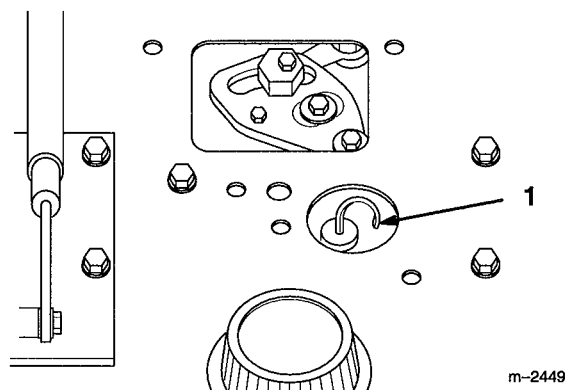

Figure 31
3. Clean around the transmission dipstick (Fig. 31) so dirt cannot fall into the filler hole and damage the transaxle.
4. Pull out the dipstick and wipe the metal end clean (Fig. 31).
5. Slide the dipstick fully into the filler tube (Fig. 18). Pull the dipstick out and look at the metal end. When transaxle is cold oil should be at the "Full" line on the dipstick (Fig. 31).
4. Slowly pour approximately 80% of the specified amount of oil into the filler tube (Fig. 31). Now check the fluid level; refer to Checking Transaxle Fluid Level, page 29. Slowly add additional oil to bring to "FULL" mark on dipstick.